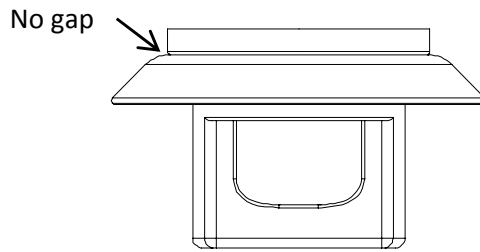

Fig. 2
2. Place spacer block ② in rail.
3. Attach trim ring on puck ①. (See Fig. 2)
4. Place puck ① into rail.